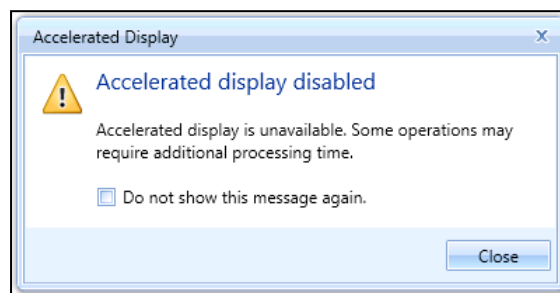

Figure 1 - Accelerated Display Warning
2. If accelerated display is unavailable on the host platform where AEDT is launched, the following warning message will be displayed (Figure 1).